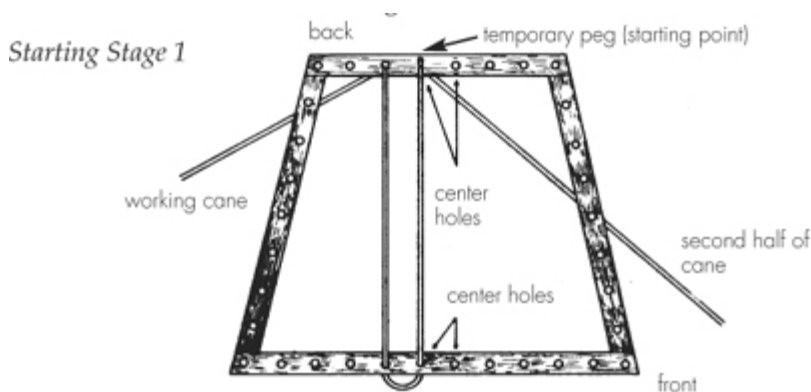

fig. 1
6. Remove the peg in the back rail. Pull a long piece of cane down through the hole. If you have marked two holes, thread the cane down through the left hole. When you have reached one-half of the cane's length, peg it in place with a temporary peg. Half of the cane is now on top of the back rail and half of it is underneath the rail. See Figure 1.
forward to the front rail; remove the peg in the corresponding marked hole, and thread the cane down through it. Make sure that the cane is straight and firm, but not too tight, and that the shiny, smooth side is up. If it is twisted, you will not be able to correct it later. Refer to Figure 1.
9. Thread the cane up through the next hole to the left on the front rail, and bring it back to the corresponding hole in the back rail. Continue in this manner until all of the holes in the back rail, except the corner holes, have cane in them. Refer to Figure 1.
1. This stage is the same as Stage 1 of the six-way pattern. Remember to leave the corner holes open. Refer to Figures 1, 2, and 10.